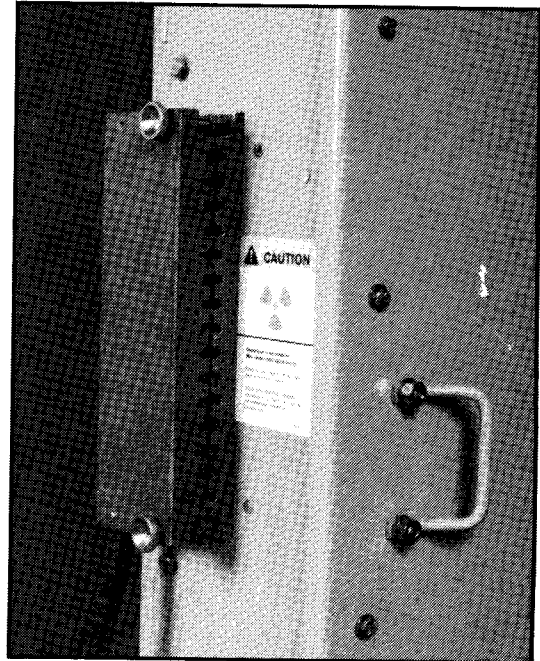

Figure 7. Connecting Split Plug Jumper to Circuit Breaker.
2. Install breaker end of split plug jumper (if furnished) shown in **Figure 7** to the circuit breaker. The plug jumper is secured by means of screws, over the circuit breaker's secondary contacts.